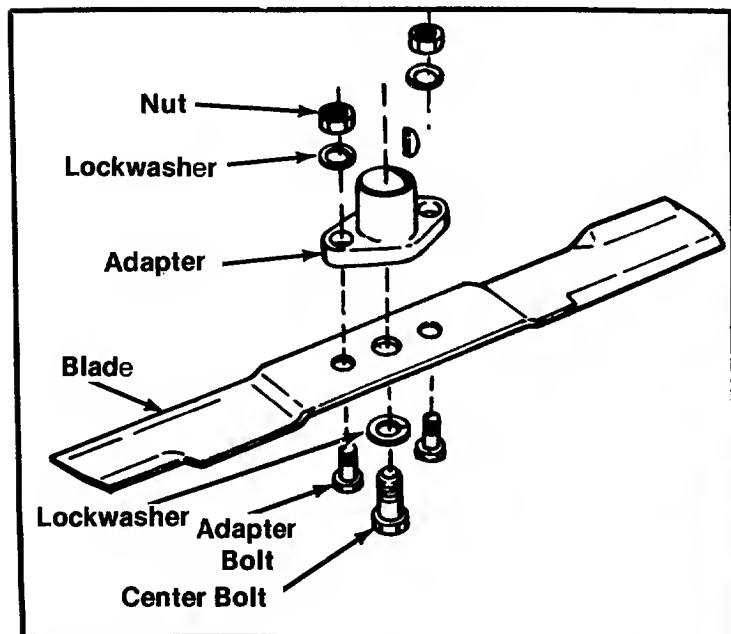

FIGURE 22. BLADE REMOVAL
- Step 2. Remove the blade by removing the hex head cap screw in the center of the blade. Hold the blade with one hand and using a 1/2" open end, box or adjustable wrench, remove the bolt. See figure 22.
Step 2. Remove the blade by removing the hex head cap screw in the center of the blade. Hold the blade with one hand and using a ½" open end, box or adjustable wrench, remove the nut. See figure 22.